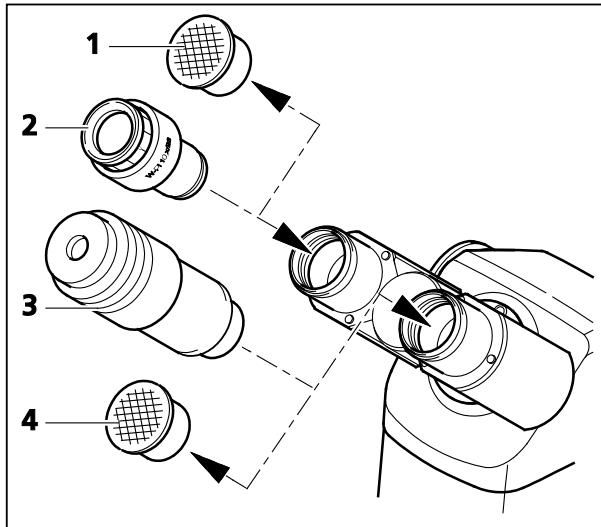

Fig. 3-3 Inserting Eyepieces
- Remove both dust caps (Fig. 3-3/1 and 4) from the binocular tube.
- Take the two eyepieces (Fig. 3-3/2) out of the container and insert them into the binocular tube as far as they will go.
- The auxiliary microscope (Fig. 3-3/3) may be inserted into an eyepiece socket of the binocular tube in place of an eyepiece. It serves to view aperture diaphragms and phase stops or to center phase stops. Using the adjustable eye lens of the auxiliary microscope, you can focus on those diaphragms and stops.